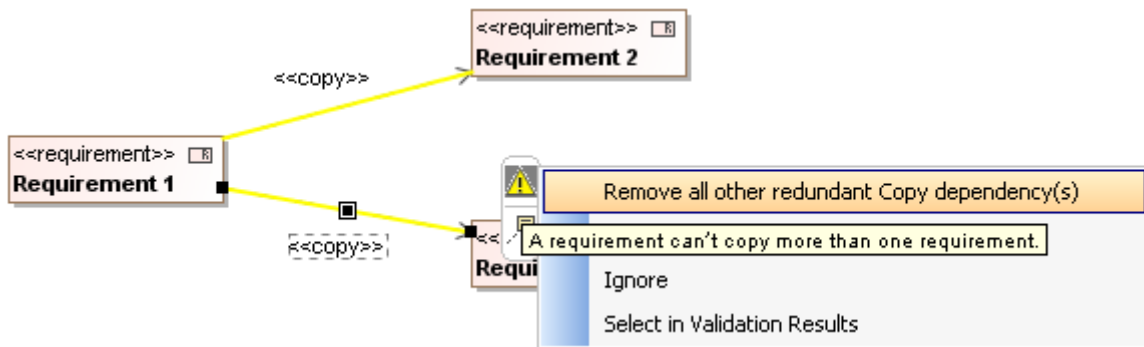
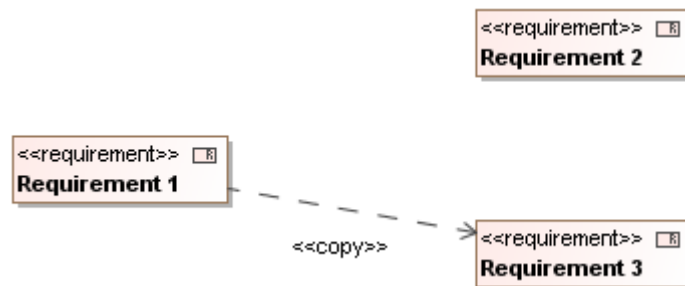

Figure 216 -- Selection of the First Solution
Figure 217 -- Valid Elements
6. In the example below (Figure 216), a constraint, referenced as “Copy[A]”, is broken. If the solution suggested by the Active Validation feature, in this case, *Remove all other redundant Copy dependency(s)*, is selected, the correctness of the model will be satisfied as shown in Figure 217.